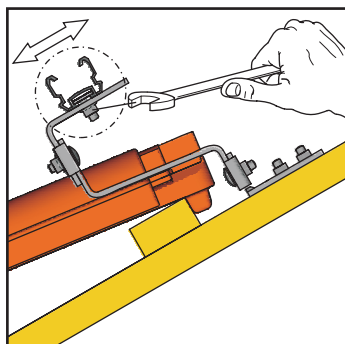
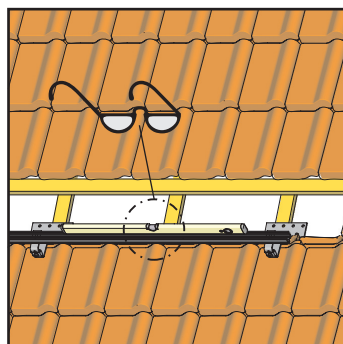

Fig. 3-8 Securely screw the profiles on the on-roof tie top section
Fig. 3-9 Align the profiles parallel to the roof tile edge
11. Tighten the self-locking nuts with which the slide blocks have been attached to the roof mounting brackets. Take care to align the mounting rail parallel to the edges of the roof tiles (Fig 3-8 to Fig 3-9).